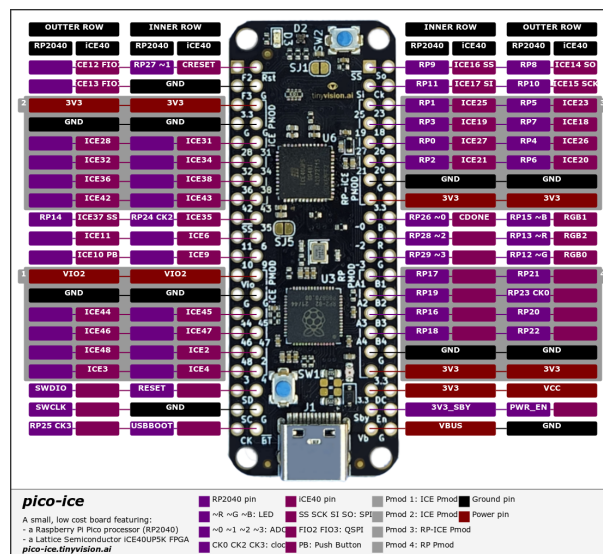

Figure 3: Pinout of the pico-ice FPGA
b) Flash the traffic light controller on the FPGA and connect the outputs to the LEDs on the board. For this you just have to run »make flash_bitstream«. The mappings between SystemVerilog signals and FPGA pins are defined in the file »traffic_light.pcf«. All the mappings start with `set_io -nowarn` followed by the name in SystemVerilog and lastly the number of the I/O port on the FPGA. You can find the corresponding numbers on the pinout of the pico-ice (see Figure 3).
Check the port mapping in the pcf file or define your own ports and then connect LEDs to your outputs. LEDs have a long leg and a short leg. The longer leg is the anode and should be connected to your pins for red, yellow and green (they deliver 3.3 V). The shorter leg is the cathode and it has to be connected in series with a resistor to ground (labelled GND in Figure3). Resistors with 47 Ω or 100 Ω are fine. You can find a box of different resistors in the lab. If you are completely unsure on what to do, then you can read more about breadboards and LEDs here.